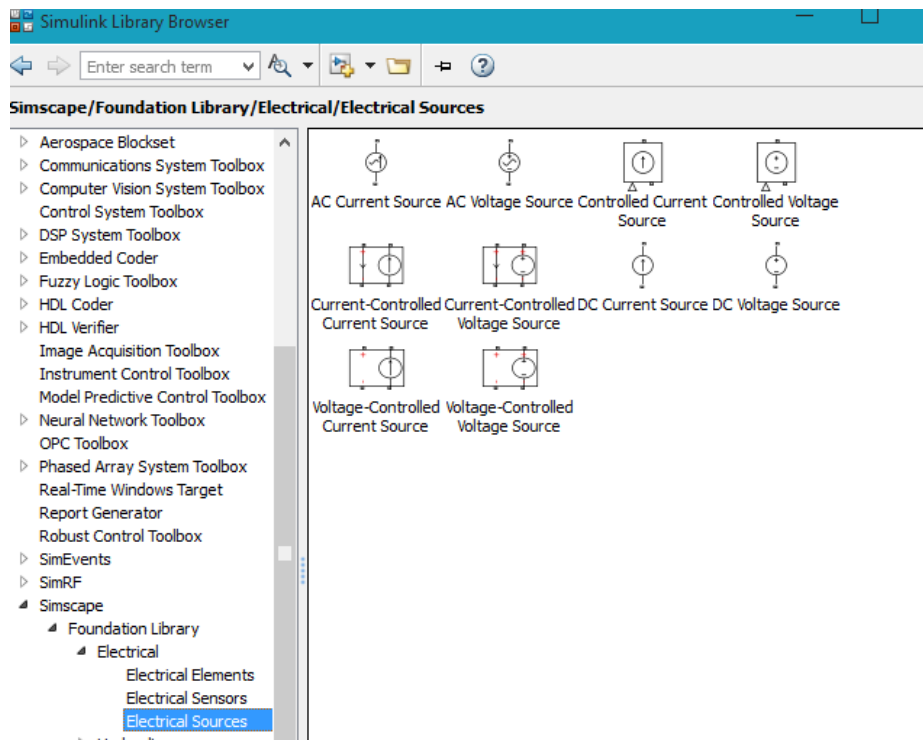
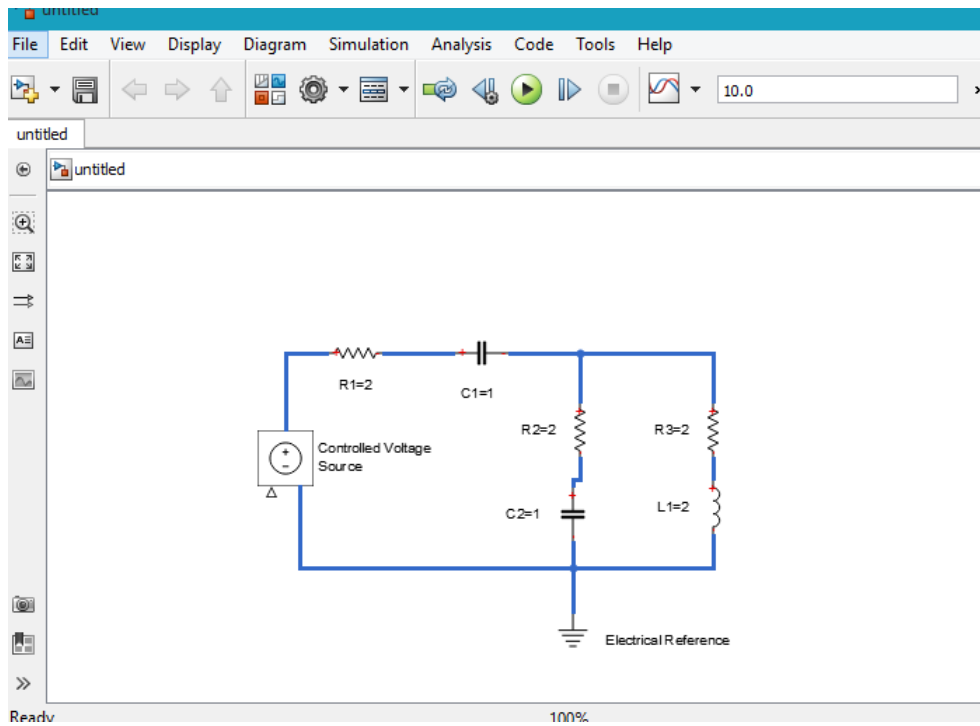

Figure 3.8: Electrical Source, step7
Figure 3.9: The block of circuit after add the voltage source, step7
7. To add the representation of the force acting on the mass, open the Simscape > Foundation Library > Electrical > Electrical Sources library figure 3.8, and add the Controlled Voltage Source block to your diagram as figure 3.9.